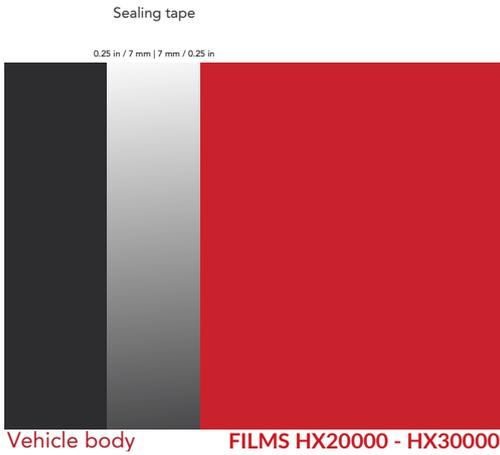

Figure 42
- ▶ Apply the strip by overlapping it by approximately 7 mm (¼ in.) over the body work and 7 mm (¼ in.) over the HX20000 - HX30000 film. (FIG. 42)